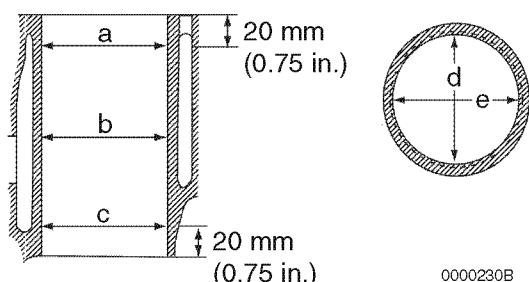

Figure 6-62
- Take measurements at three places (**Figure 6-62**) (**a, b, and c**), and in two directions (**d and e**) in each cylinder. Collect and record the measurements. See *Cylinder Block* on page 6-12 for specifications.